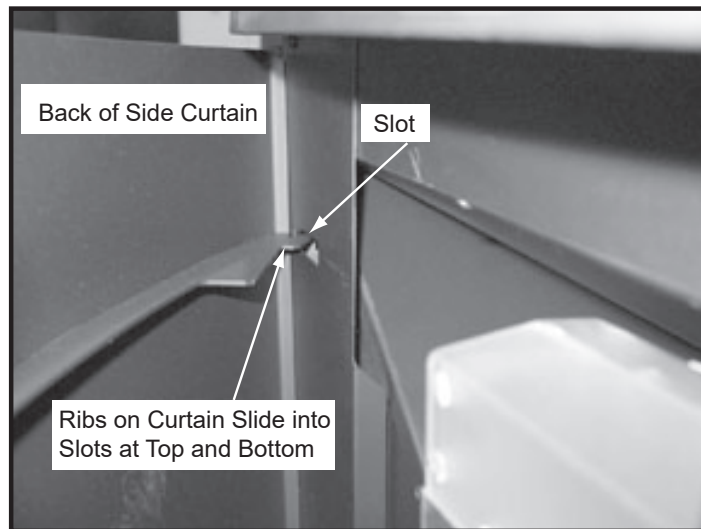
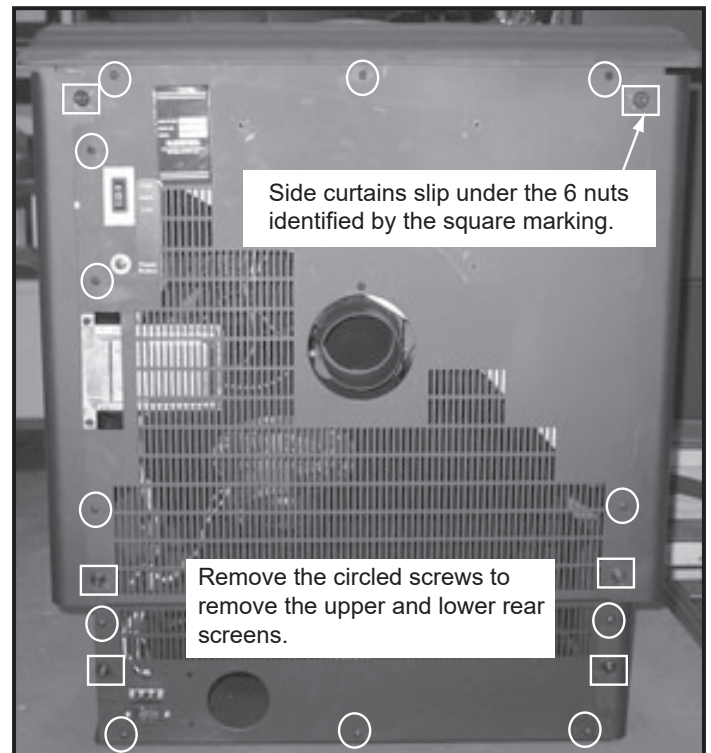

Figure 27.1
Figure 27.3
- Remove the right upper and lower side curtains by loosening 7/16" nut in the back and lift off of the appliance. When re-installing flex curtain to re-attach (Figure 27.1).
- Remove both upper and lower side curtains (Figure 27.1). Remove the upper and lower rear curtains (Figure 27.3).